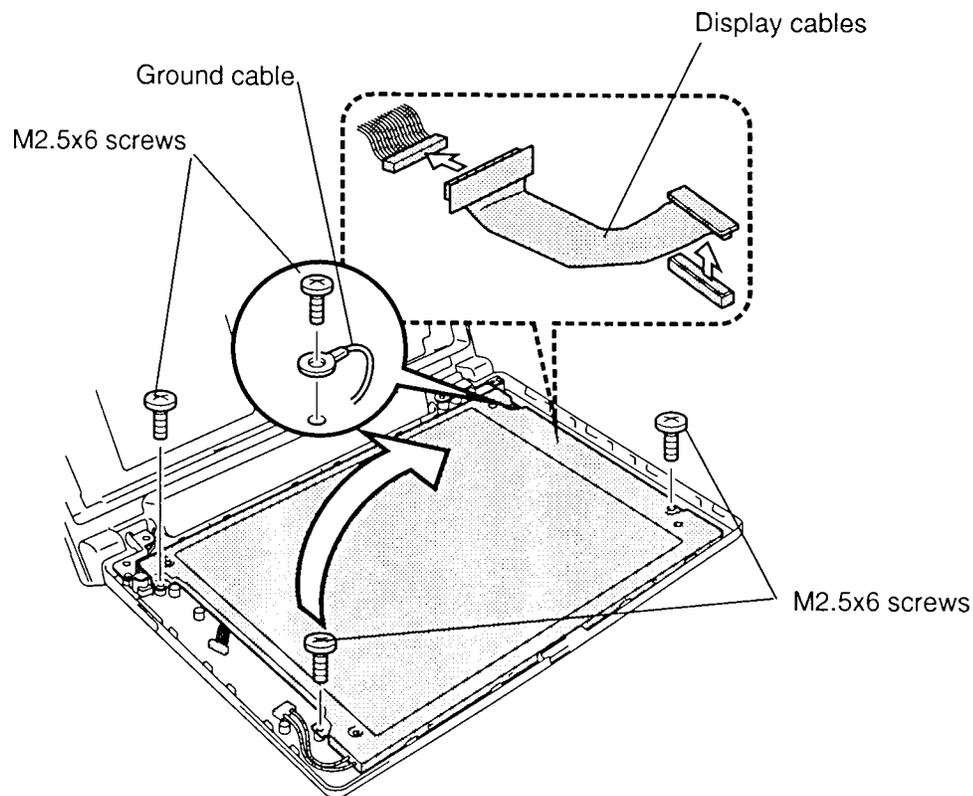

Figure 4-30 Removing the LCD module
To remove the T2150CDT's color LCD module, follow the steps below and refer to figure 4-30.
3. Remove **four M2.5x6 screws** with **ground cable** securing the **LCD module** to the LCD cover (figure 4-30).
4. Carefully rotate the **LCD module** from left to right out of the display cover and disconnect the **display cable** from the LCD module (figure 4-30).
To install the T2150CDT's color LCD module, follow the steps below and refer to figure 4-30.
1. Connect the **display cable** to the **LCD module**, and carefully rotate the LCD module into place in the display cover (figure 4-30).
2. Secure **four M2.5x6 screws** with the **ground cable** on the **LCD module** (figure 4-30).